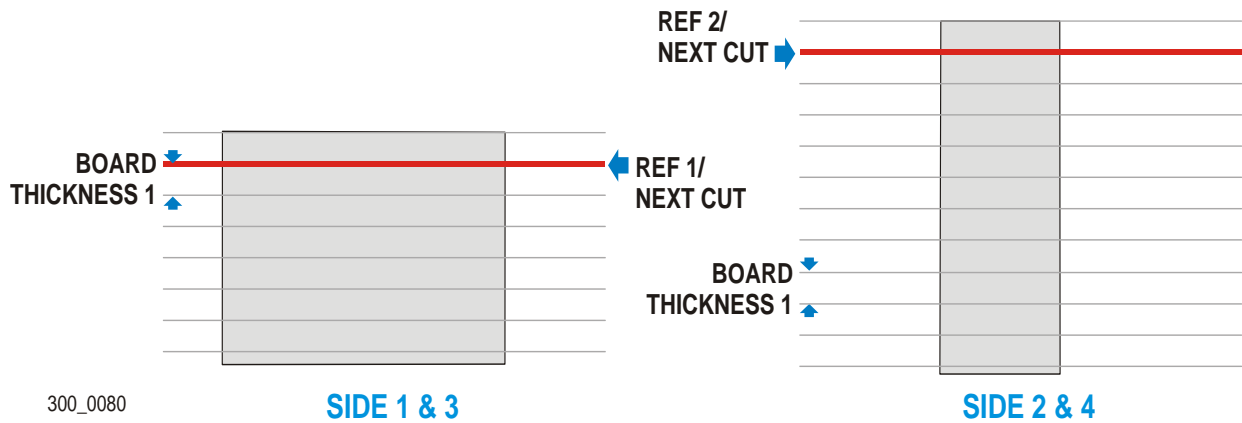

FIG. 4-30
**See Figure 4-30.** Pattern Mode utilizes the blue CANT SIZE buttons at the right of the control. This mode allows the operator to position the blade referenced from the bed rails. Pattern Mode is best used when sawing dimensional lumber or finishing a cant to size when grade sawing.